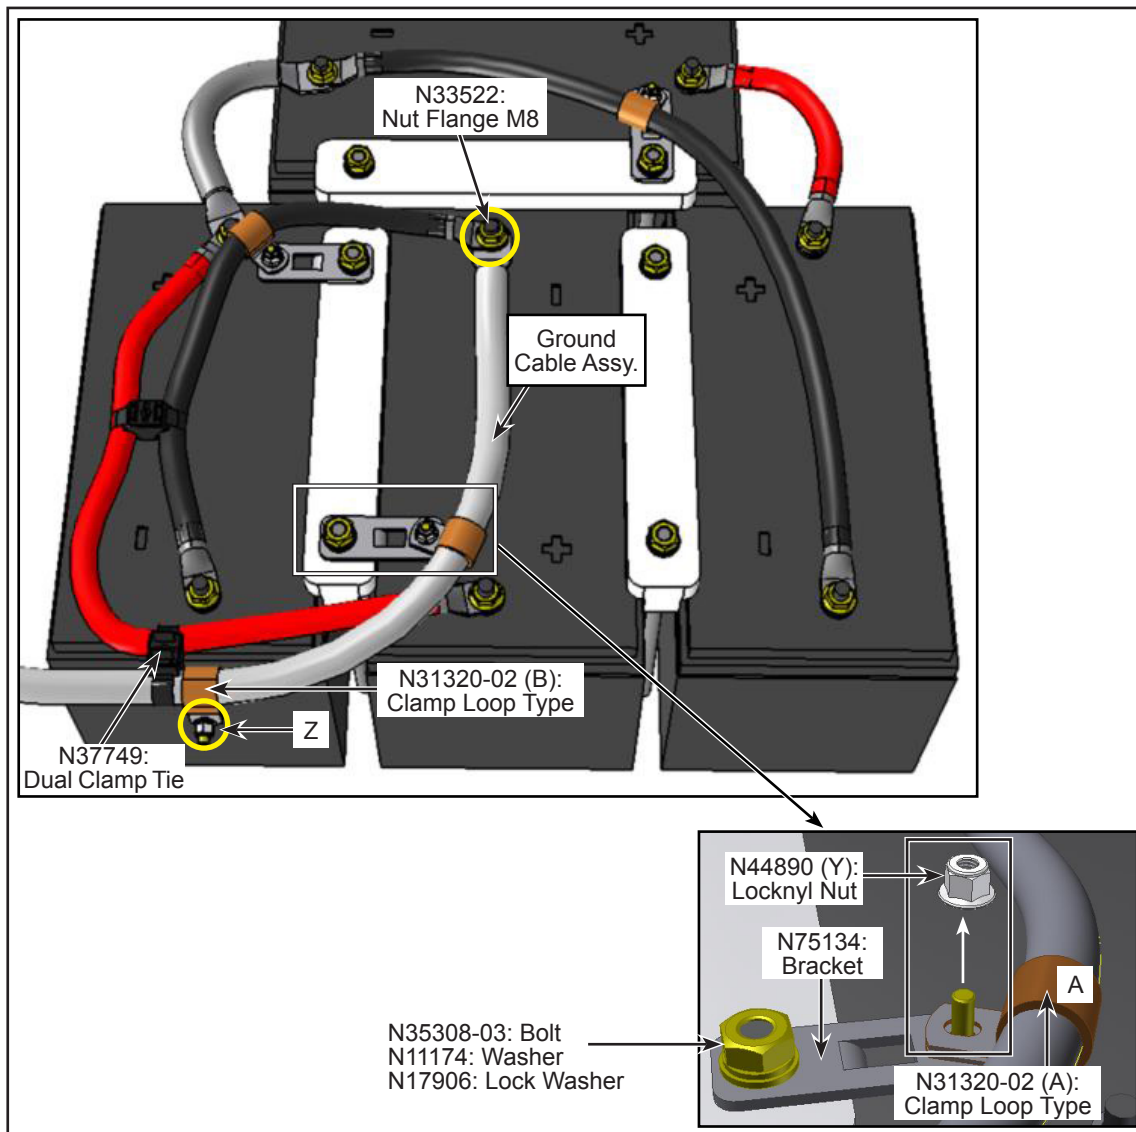

Figure 6 - Removal of Ground Cable Assembly and its Accessories
- 1.13. Remove and discard the locknyl nut M6 (N44890: Y) on cable assy. Also, remove and retain the nut M6 (Z) (see Figure 6).
- 1.14. Remove and discard the clamp loop type (N31320-02: A, B). Unscrew and remove bolt (N35308-03) with washers (N17906 and N11174). Retain the same (see Figure 6).
- 1.15. Remove the flange nut (N33522) with bracket assembly (N75134) of ground cable (see Figure 6). Discard the flange nut and bracket assembly.
- 1.16. Remove the dual clamp tie (N37749) and the ground cable assembly (see Figure 6). Discard the cable assembly with dual clamp tie.